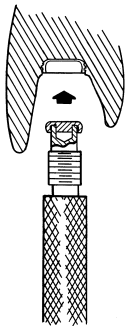
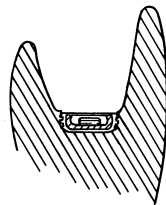

Fig. 10
Fig. 11
9. The LOCATOR Male Seating Tool (contained in Locator Core Tool, Zest order #8393) is used to firmly push a LOCATOR Replacement Male into the empty metal denture cap. (Fig. 10) The replacement male must seat securely into place, level with the rim of the cap. (Fig. 11) Use of multiple Locator attachments (3 or more) in the same dental arch may require use of the 3.0 lbs. (light retention) pink colored Replacement Male No. 8527 or 1.5 lbs. (extra light retention) blue colored Replacement Male No. 8529, for easier removal of the prosthesis by the patient. **NOTE: The Replacement Male will not stay on the tool when it is turned upside down due to the varying sizes of males available. It is best to hold the denture with the base side down and snap the male into the metal denture cap.**